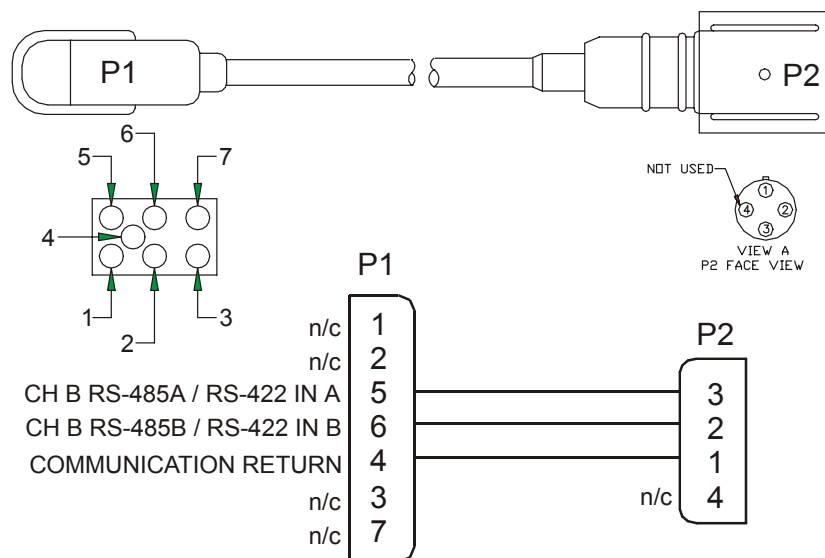

Figure 3. MicroCAT Self-Contained Interface Cable Wiring
- Disconnect the standard WorkHorse I/O cable and connect the ADCP and the MicroCAT together using the cable shown in Figure 3.